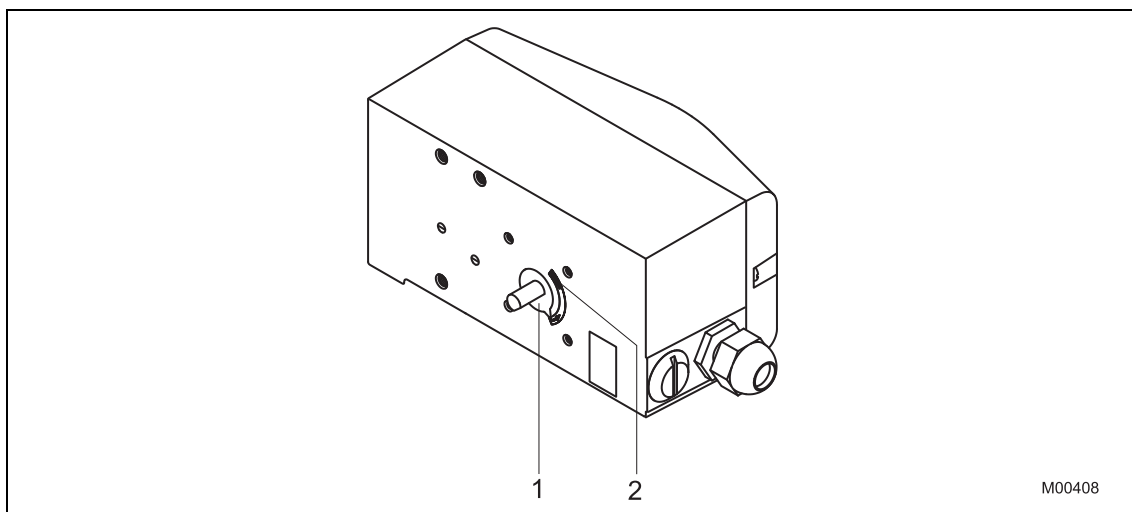

Fig. 2: Operating range
- Based on the mounting position as well as the home position and rotational direction of the actuator, determine in which position the feedback shaft (1) for the positioner must be pre-adjusted and in which position the adapter (2) must be placed to enable the positioner to travel within the proper range (the arrow on the rear of the device must travel within the admissible range, see Fig. 2)
- Place the adapter in the proper position on the feedback shaft and fasten with set screws (3). One of the set screws must be locked in place on the flat side of the feedback shaft